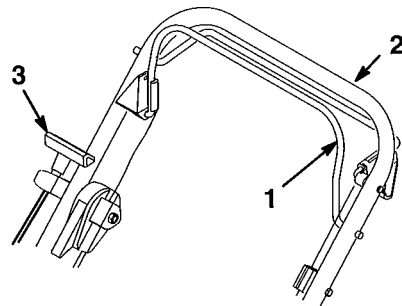

Figure 12
3. Hold blade control bail against upper handle (Fig. 12).
4. Pull starter handle lightly until resistance is felt, then pull sharply (Fig. 12). Let rope return to handle slowly.